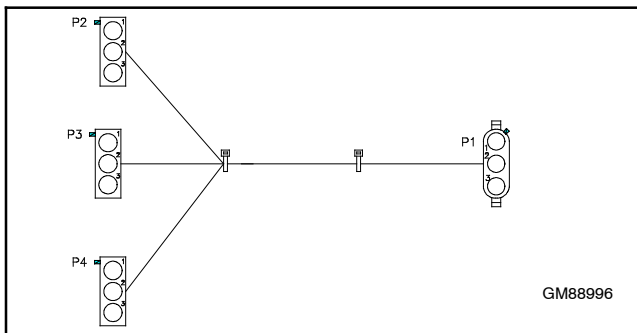

Figure 11 Adapter Harness for 240 VAC Accessories
19. If multiple 240 VAC accessories are installed (typically this battery heater, the fuel regulator heater for 20 kW models, and/or a carburetor heater), connect P1 of adapter harness GM88996 to the 3-pin power connector. See Figure 11. Connect P2, P3, and P4 of harness GM88996 to the battery heater power cord connector and other 240 VAC accessories.